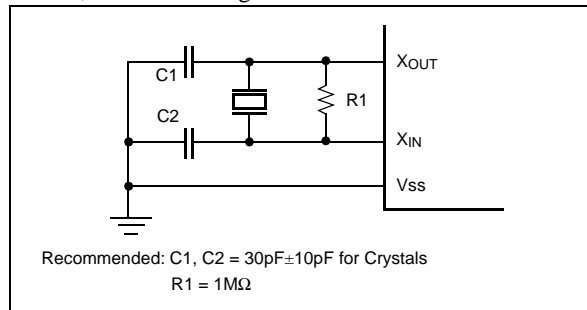

Figure 10-2 Oscillator Connections
XIN and XOUT are the input and output, respectively, an inverting amplifier which can be set for use as an on-chip oscillator, as shown in Figure 10-2.
**Note:** When using a system clock oscillator, carry out wiring in the broken line area in Figure 10-2 to prevent any effects from wiring capacities.